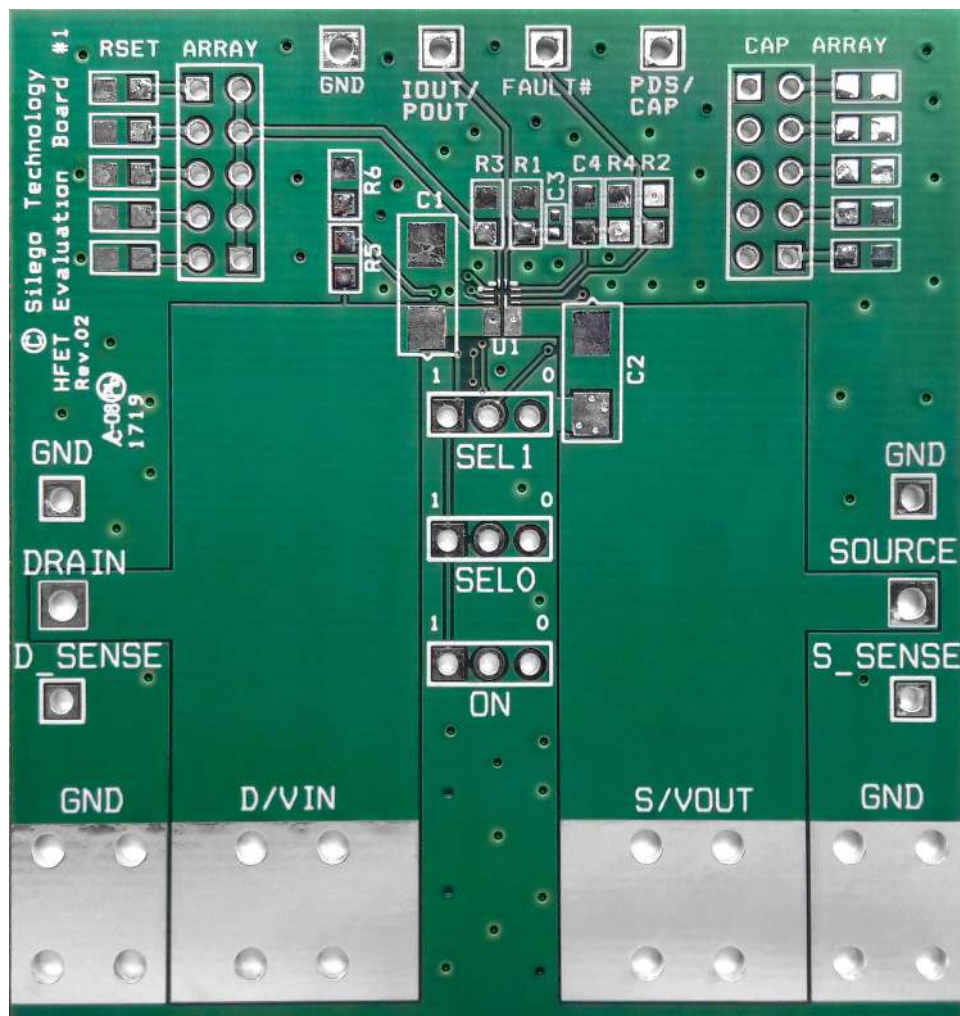

Figure 28. SLG59H1005V Evaluation Board
1. Since the VIN and VOUT pins dissipate most of the heat generated during high-load current operation, it is highly recommended to make power traces as short, direct, and wide as possible. A good practice is to make power traces with absolute minimum widths of 15 mils (0.381 mm) per Ampere. A representative layout, shown in Figure 28, illustrates proper techniques for heat to transfer as efficiently as possible out of the device;
A High Voltage GreenFET Evaluation Board for SLG59H1005V is designed according to the statements above and is illustrated on Figure 28. Please note that evaluation board has D\_Sense and S\_Sense pads. They cannot carry high currents and dedicated only for  $RDS_{ON}$  evaluation.